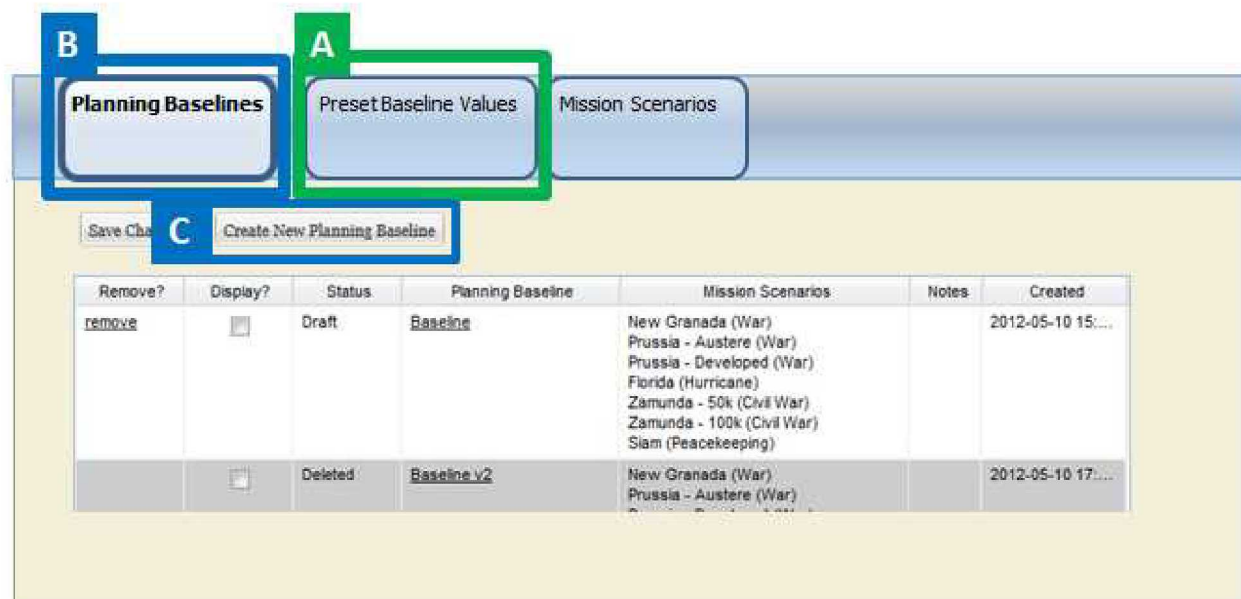

Figure 5. Creating a new planning baseline.
1. Preview the values on the *Preset Baseline Values* tab (step A in Figure 5). If the values need to be updated, contact the administrator.
2. On the *Planning Baselines* tab (step B in Figure 5), click the “Create New Planning Baseline” button (step C in Figure 5).